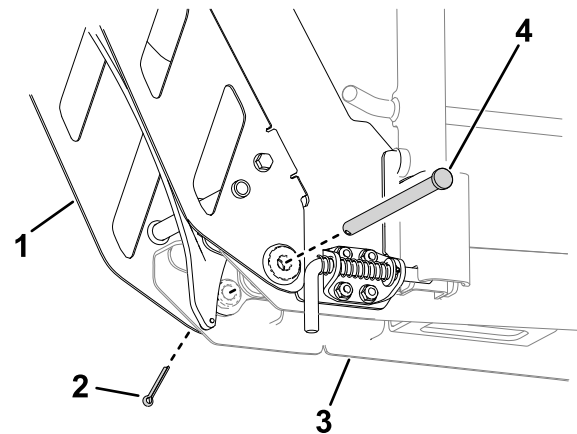

Figure 16
10. Use a pivot pin and a cotter pin to secure the ramp assembly to the rail assembly (Figure 16).